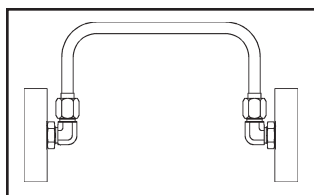

Fig. A14 — Correct Routing
- **Avoid excessive strain on joint** — A strained joint will eventually leak. (See Figures A14 through A21.)